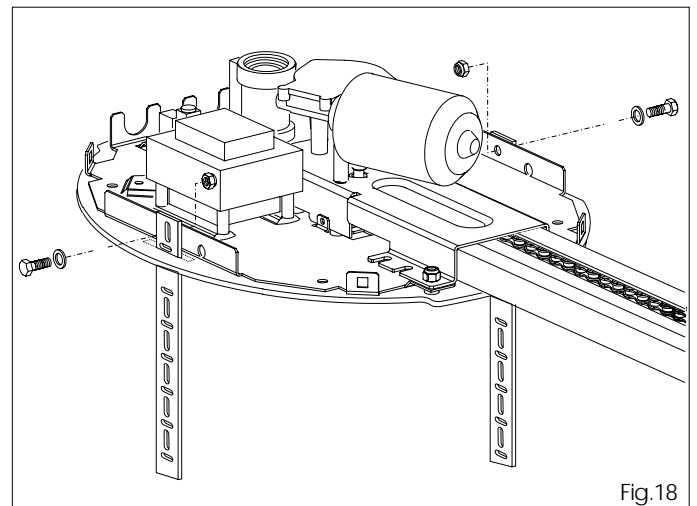

Fig.18
6.9 Fit the supplied brackets in the slots and secure the operator with the nut (fig. 18).